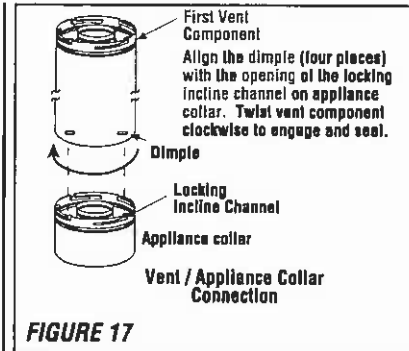

FIGURE 17
To attach a vent component to the appliance collar, align the dimpled end over the collar, adjusting the radial alignment until the four locking dimples are aligned with the inlet of the four inclined channels on the collar (refer to **Figure 17**). Push the vent component against the collar until it fully engages, then twist the component clockwise, running the dimples down and along the incline channels until they seat at the end of the channels. The unitized design of the Secure Vent components will engage and seal both the inner and outer pipe elements with the same procedure. Sealant and securing screws are not required.
Secure Vent SV4.5 direct vent system components are unitized concentric pipe components featuring positive twist lock connection, (refer to Figure 17 on page 11). All of the appliances covered in this document are fitted with collars having locking inclined channels. The dimpled end of the vent components fit over the appliance collar to create the positive twist lock connection.
D. Attach vent components to appliance - To attach a vent component to the appliance collar, align the dimpled end over the collar, adjusting the radial alignment until the four locking dimples are aligned with the inlets of the four incline channels on the collar (refer to Figure 17 on page 11).